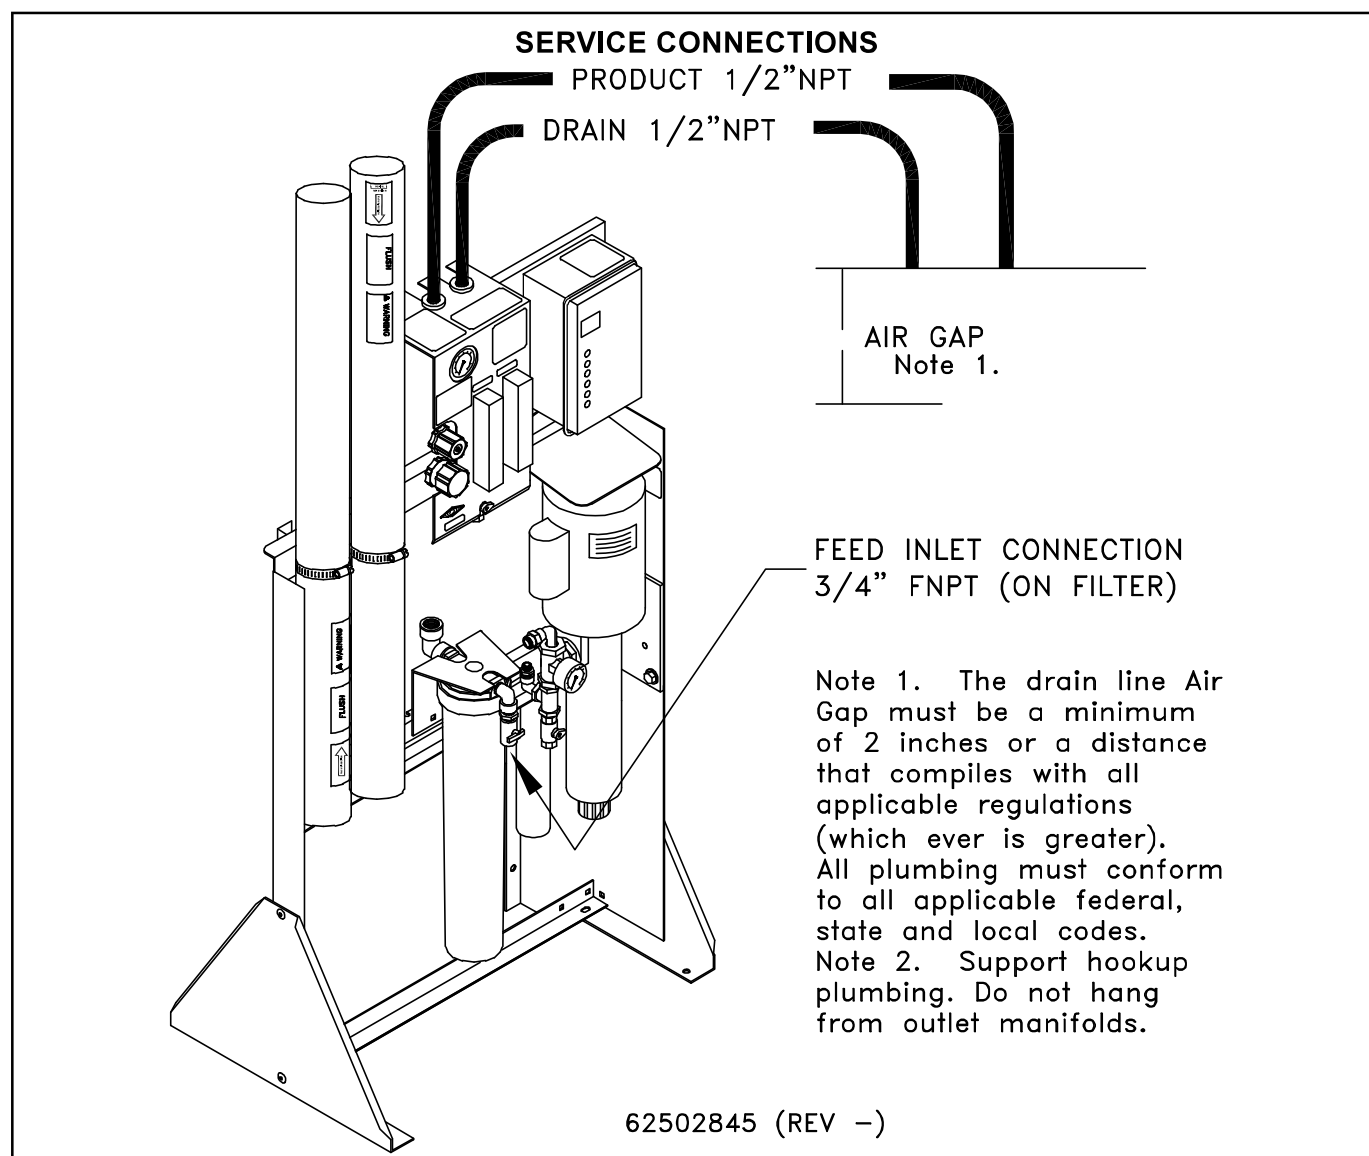

FIGURE 2
1. Water feed line - 3/4 inch FNPT connection (See Figure 2).
3. Connect plumbing inlet and outlet lines. Use guidelines specified in: "Service Connection", Figure 2. Secure plumbing to walls or hangers.